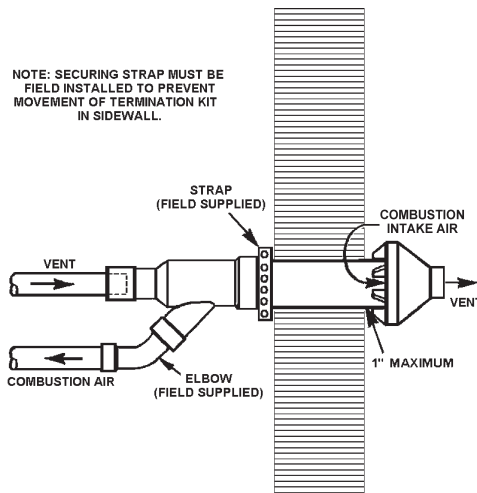

Figure: 29
NOTE: Ensure termination location clearance dimensions are as shown in the diagrams found in "Figure: 28" and Figure 29. When extending the length of the 4" pipe, the added length beyond 21-1/8" must be deducted from the maximum equivalent feet of vent pipe.
- Cement heater combustion-air and vent pipes to concentric vent termination assembly. See Figure 29 for proper pipe attachment.